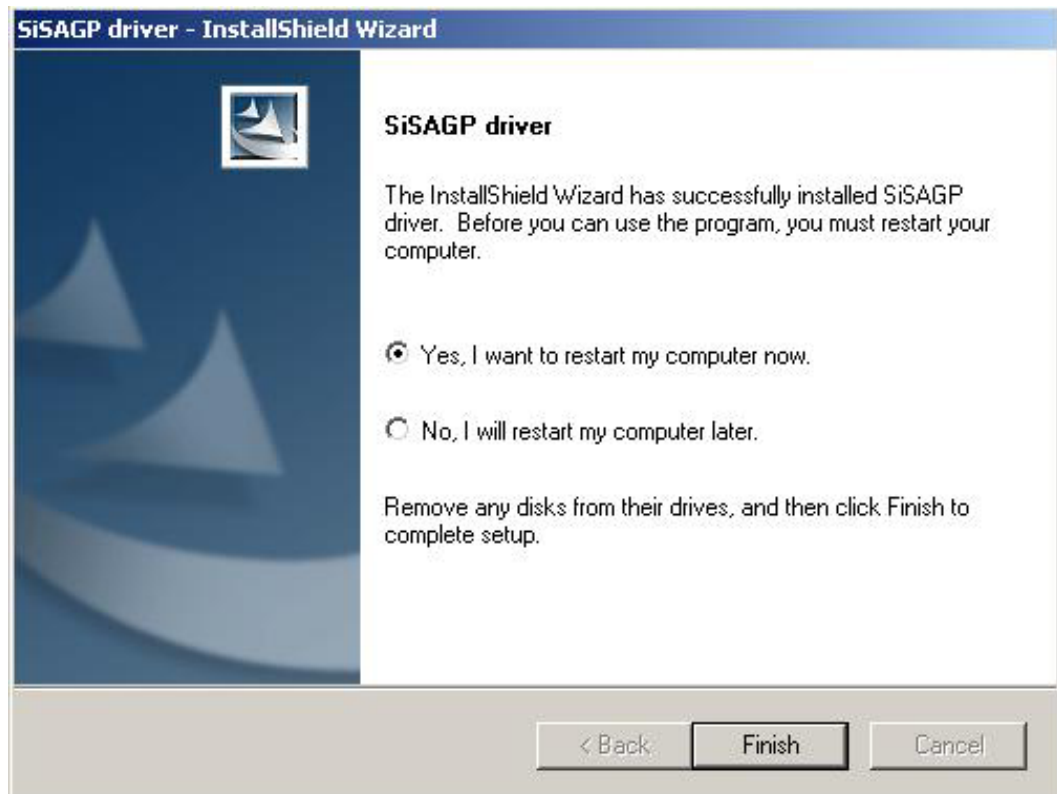

Figure 6-17: Restart the Computer
Step 11: Once the installation process is complete, the computer may be restarted immediately or later. Select the preferred option and click **FINISH** to complete the installation process and exit the **Install Shield Wizard** (Figure 6-17).